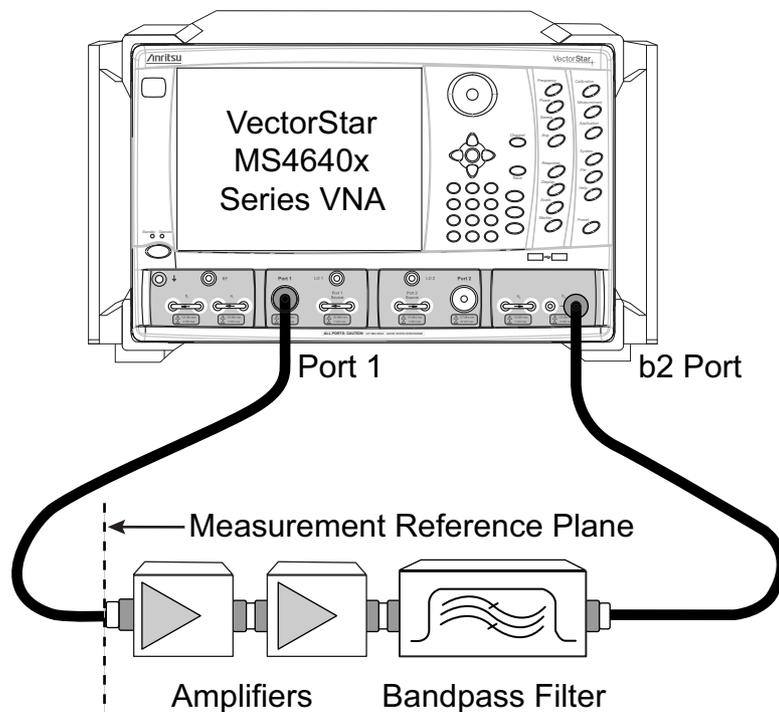

Figure 1-1. Composite Receiver Calibration
4. Receiver calibration (transferring the traceable power accuracy to the receiver) as shown in Figure 1-1. Attach the calibrated test port to the composite receiver to calibrate the receiver.